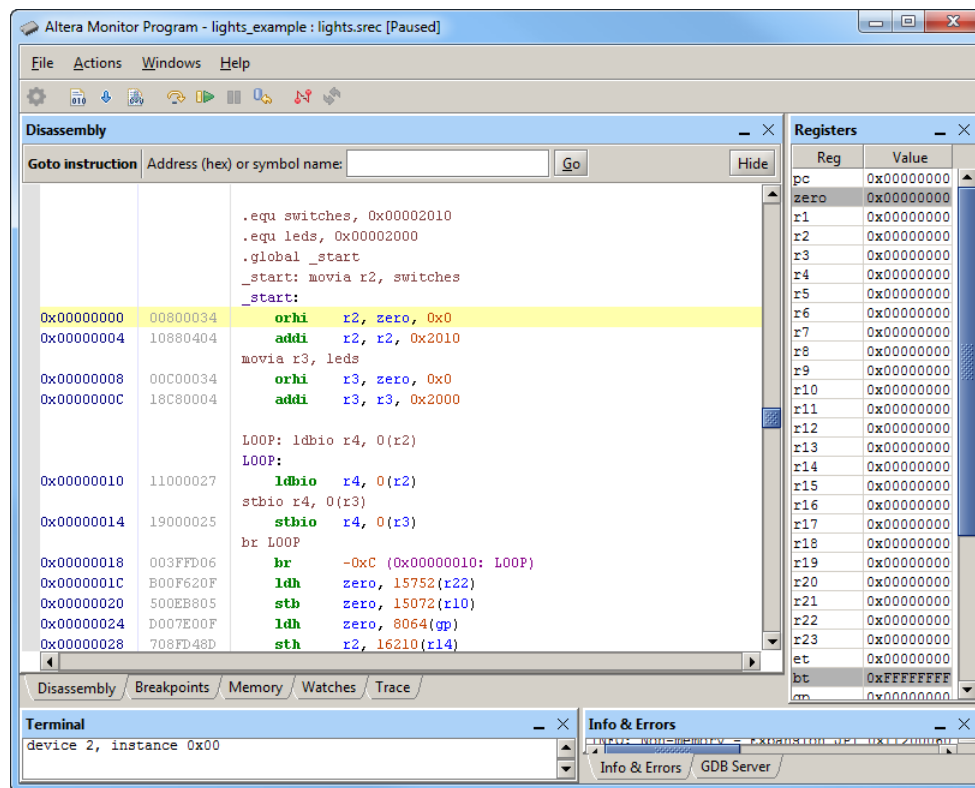

Figure 32. Display of the downloaded program.
10. The downloaded program is shown in Figure 32. Run the program and verify the correctness of the designed system by setting the slider switches to a few different patterns.